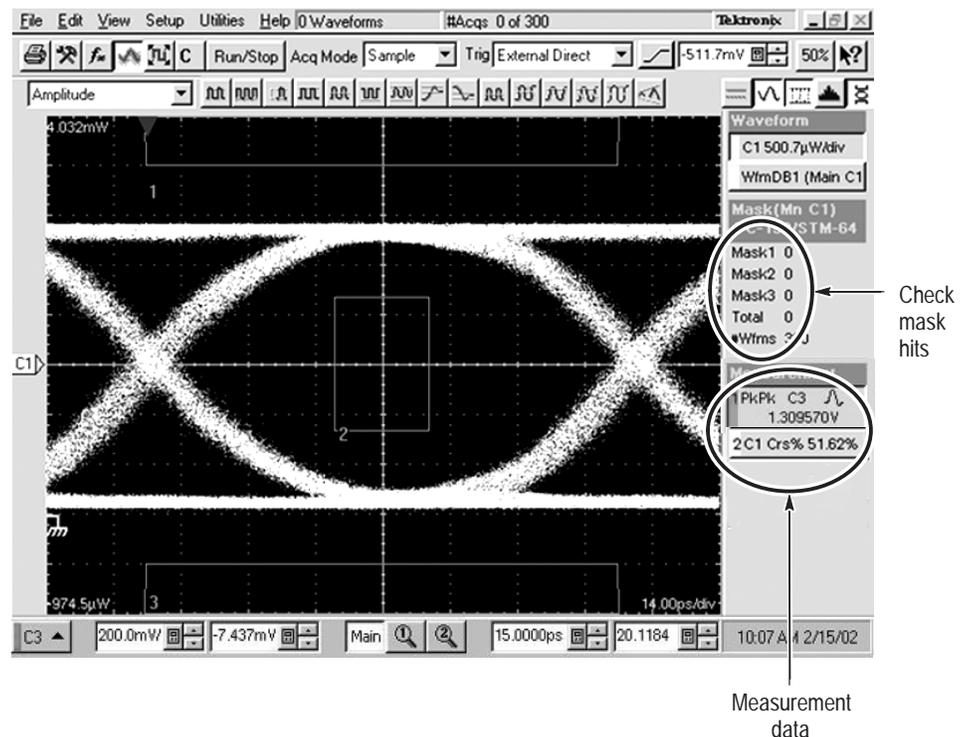

Figure 17: Measurements taken from the eye pattern
- The oscilloscope displays an eye pattern similar to Figure 17 on page 49. The oscilloscope setup in the next section sets up the mask parameters.
The oscilloscope displays an eye pattern as shown in Figure 17.
6. Record the measurement data (see Figure 17) in the first row of Table 18.